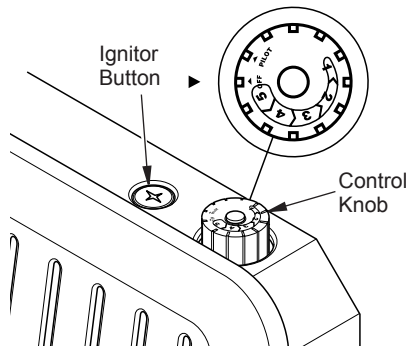

Figure 21 - Control Knob in the OFF Position
- 4. Wait five (5) minutes to clear out any air. Then smell for gas, including near the floor. If you smell gas, STOP! Follow "B" in the safety information above. If you do not smell gas, go to the next step.
- 5. Turn control knob counterclockwise ↺ to the PILOT position. Press in control knob for five (5) seconds (see Figure 21).